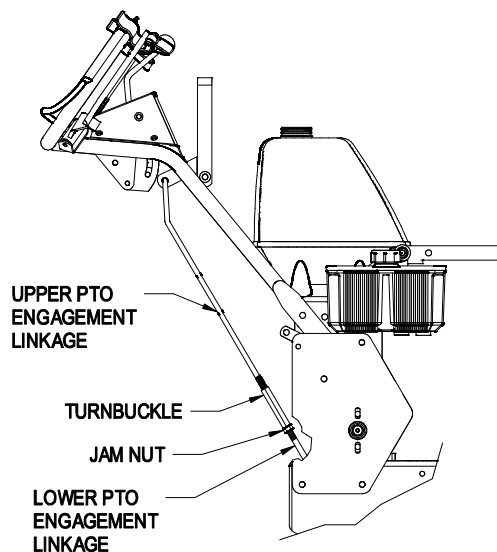

FIGURE 3
- 3.10 Connect the PTO engagement linkage (See Fig. 3). Loosen jam nut and remove turnbuckle from lower linkage. Screw turnbuckle onto both upper and lower linkages simultaneously. Note that threads on upper linkage are left hand. See 5.2.2 for linkage adjustment.